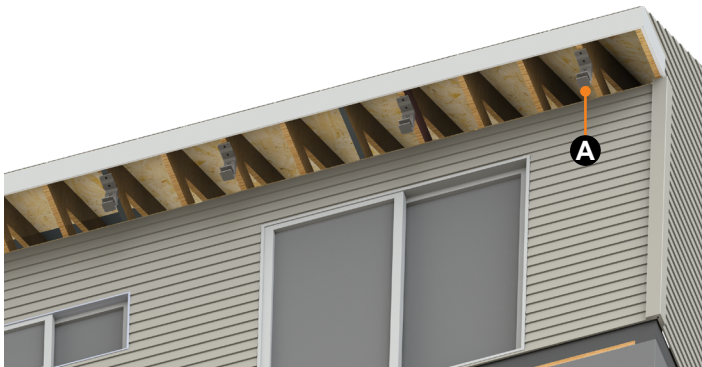

Fig.38
7. Examine the marks made at the left and right edges of the awning and the bracket positions listed in the "Bracket Locations by Awning Size vs. Stud/Brick location" subsection of the "Prior to Installation" section of this manual (Fig. 20-22). Compare these bracket locations to the marks made identifying the stud centers along the mounting line. When placing brackets, remember that each bracket pair ("F" bracket and "L" bracket) included with the kit must be used. Space bracket pairs as evenly as possible across the length of the awning while ensuring that each "L" bracket will be installed onto a stud, with the mounting holes aligning to the center mark of the stud. Place each bracket appropriately, and make any adjustments as needed to the left/right positioning of the awning. Re-mark the new left and right edges of the awning as needed after adjustments. Figure 38 depicts an install for a 12'x10' awning with appropriate alignment between studs and brackets for awning size.